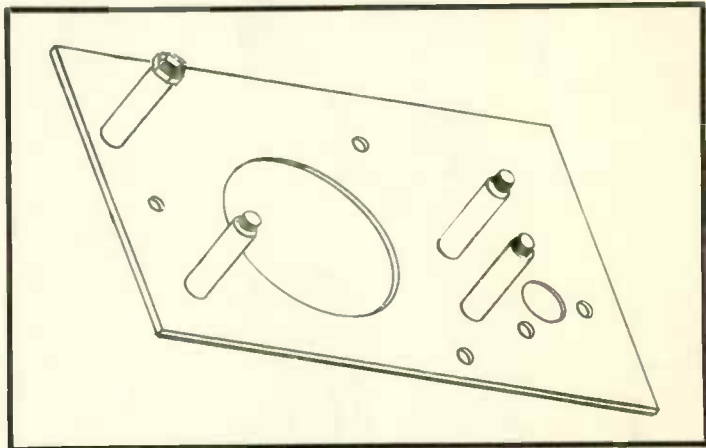

FIG. NO. 2
- () 2. Add glue under the head of each screw and push the screw through counter-sunk holes from rough side of mounting board. Slip a tubular spacer over each screw and tighten in place with a pal nut. This will hold screws in position until the glue dries. See Fig. No. 2.